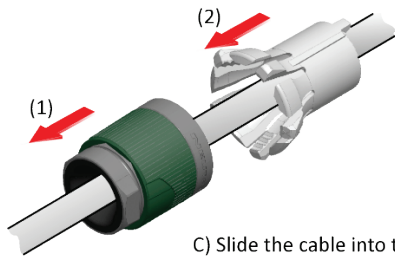

**FIG.11**
- FIG.10 and FIG11 show the possible horizontal swivel combinations: FIG.10 is for the speaker mounted vertically or FIG.11 for speaker mounted horizontally.